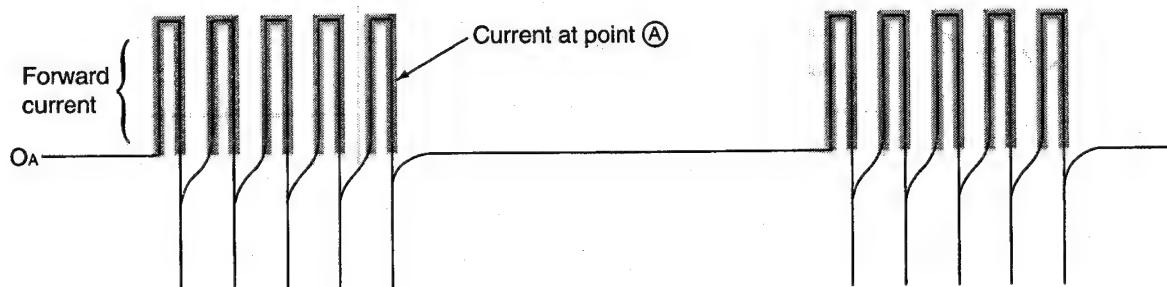
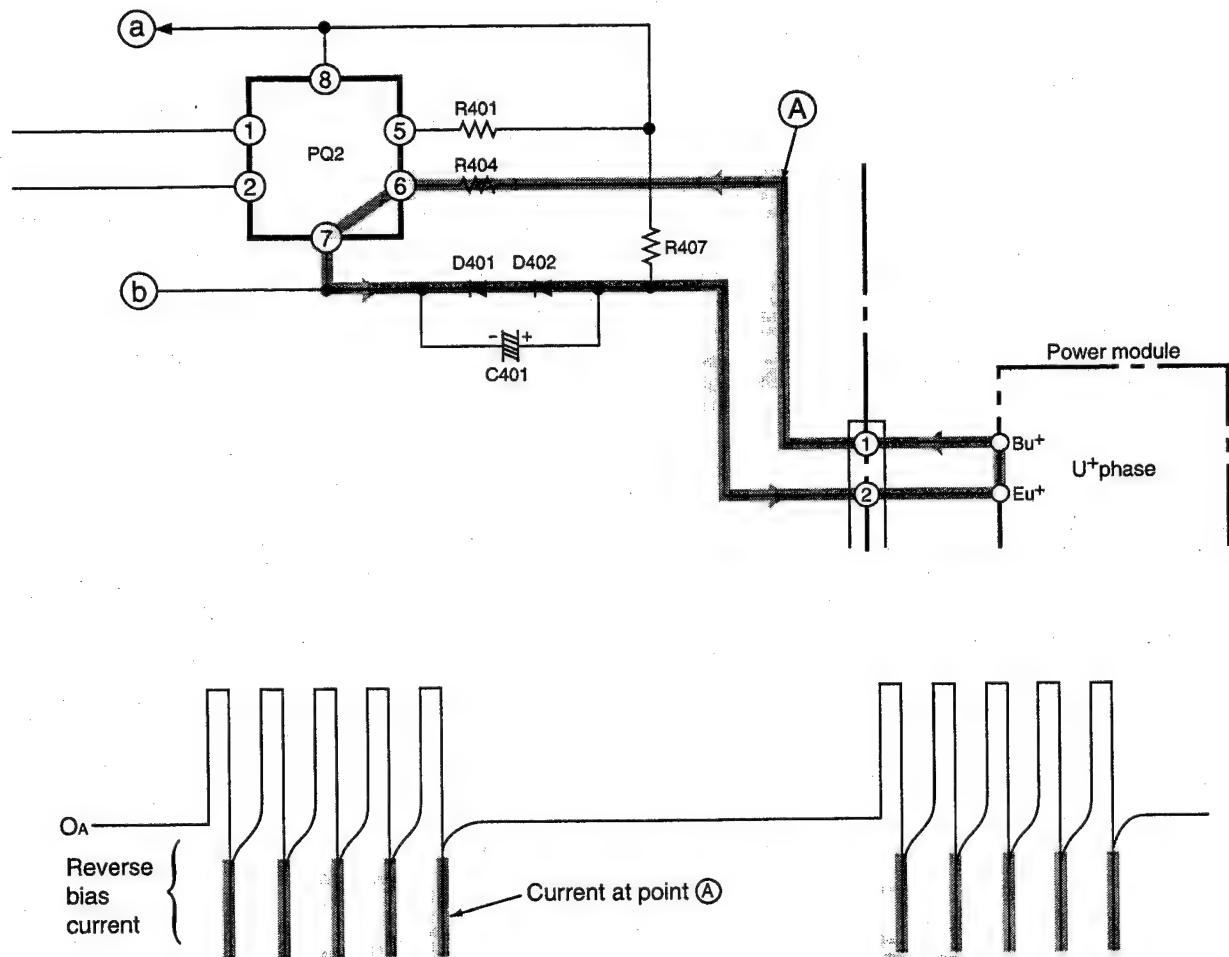

Fig. 7-2 Forward Current Waveform at Point A
Fig. 7-3 Waveform of Transistor Base Current (Reverse Current at Point A)
- When pin ② of the micro computer goes "HI" → "LO", a photocoupler between PQ2 pins ① and ② turns on and current flows to terminal A → R401 → PQ2 → R404 → power module's Bu+ terminals → Eu+ terminals → D402 → D401 → terminal B and drives the upper arm transistors. (Fig. 7-2)
- As described in the rotor magnetic pole position detecting circuit, the upper arm drive circuit supplies current to the bases of the transistors on the power module's positive + side which turn on or off according to the position detection signals. The signals according to the position detection detection signals are output from pins ②3, ②4 and ②5 of the micro computer and are input to pins ② of photocouplers PQ2 - PQ4.
- When pin ⑧ of the micro computer then goes "Lo"  $\rightarrow$  "Hi", a photocoupler between PQ2 pins ① and ② turns off and the reverse bias current flows to C401  $\rightarrow$  power module's Eu+ terminals  $\rightarrow$  Bu+ terminals  $\rightarrow$  R404  $\rightarrow$  PQ2 to cut off the upper arm transistors. (Fig.7-3)